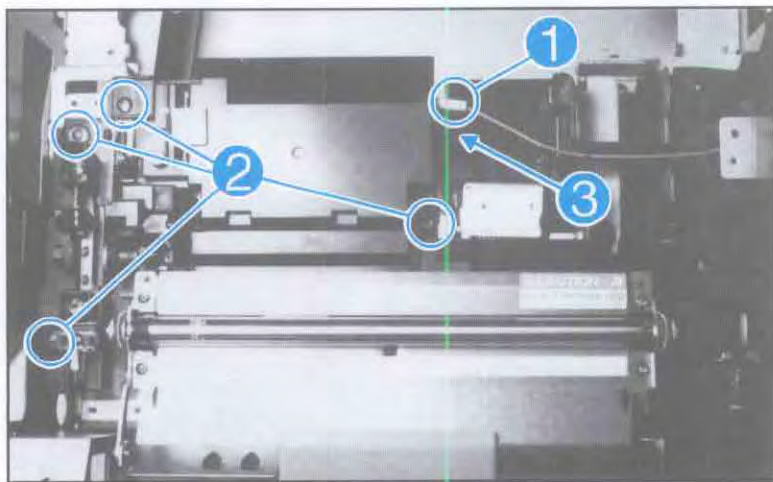

Figure 6-32. High Voltage Power Supply
5. Unplug the (1) single-pin connector (Figure 6-32, callout 1).
6. Remove the (4) screws shown in Figure 6-32, callout 2.
7. Slide the High Voltage Power Supply toward the rear of the unit, unplug the (1) multi-pin connector and remove the Power Supply (see Figure 6-32, callout 3).
6. Remove the High Voltage Power Supply (see Figure 6-32).
8. The High Voltage Power Supply (see Figure 6-32).